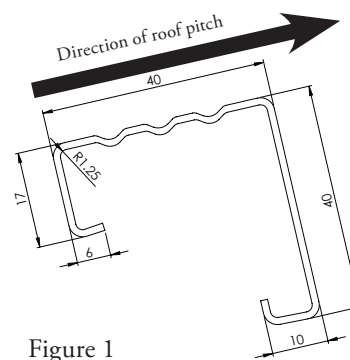

Figure 1
3. The start position for the bar should be established based upon the roof design criteria and roof sheet manufacturers specifications. Ensure that the first bar is orientated correctly, Figure 1, and that the first bracket is within 100mm of the start of the bar.